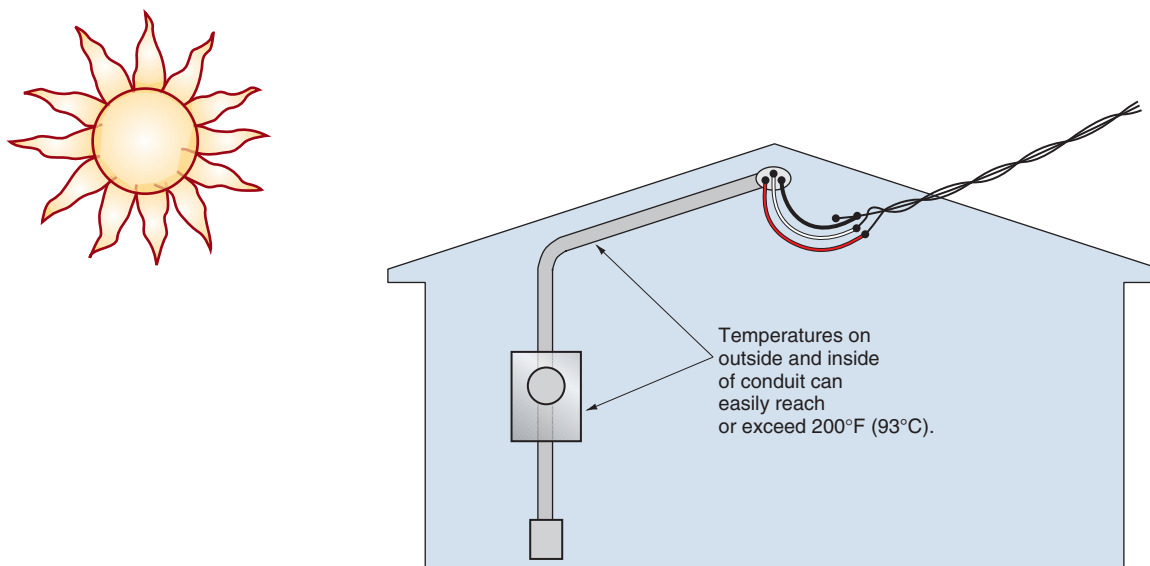

FIGURE 29-1 Example of a high-temperature location. (Delmar/Cengage Learning)
In certain parts of the country, such as the southwestern desert climates where extremely hot temperatures are common, the AHJ will probably enforce 310.10(D) and 310.15(A)(3) regarding temperature limitations of insulated conductors. This means that conductors in raceways or cables exposed to direct sunlight (on a roof or side of a building) be corrected (derated) according to the “Correction Factors” found in Table 310.15(B)(2)(a). See Figure 29-1.